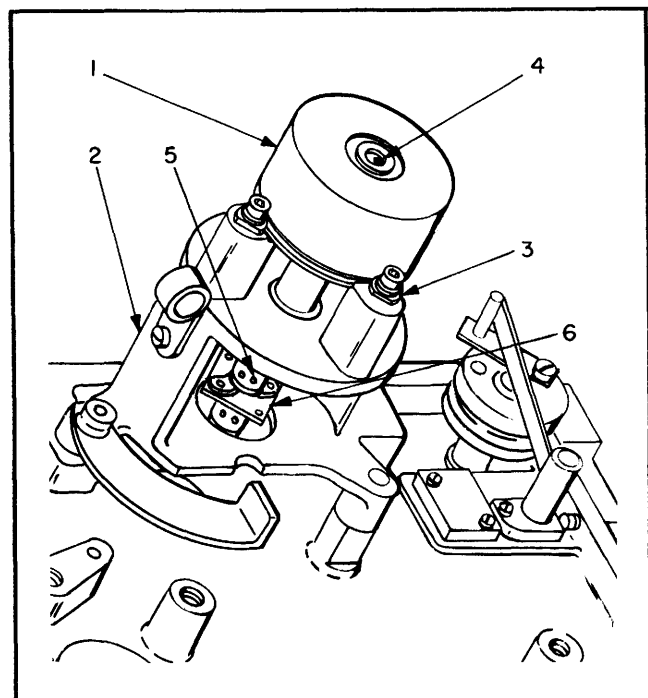

Figure 6-7. Potentiometer Removal
6-3-12. POTENTIOMETER. (Reference figure 6-7.) The precision potentiometer (1) is held in a casting (2) by three dogs (3). The potentiometer shaft is attached to the tension arm shaft by a coupling (4). The angular setting of the potentiometer determines the location of the tension arm during the null period (transport in standby).
6-3-12-2. To adjust, reference figure 6-7.